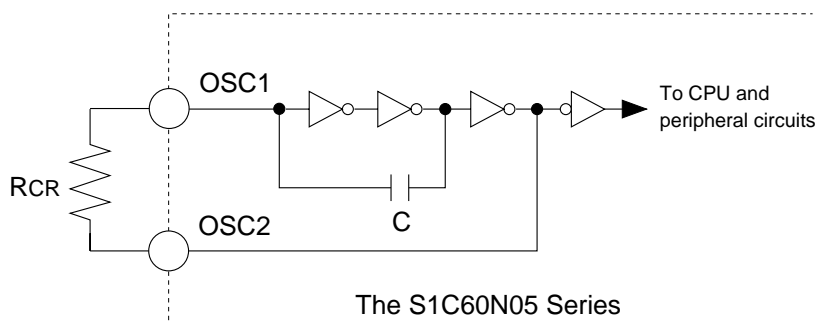

Fig. 4.2.2
For the S1C60N05 Series, CR oscillation circuit (typ. 65 kHz) may be selected by a mask option. Figure 4.2.2 is the block diagram of the CR oscillation circuit.
As Figure 4.2.2 indicates, the CR oscillation circuit can be configured simply by connecting the register (RCR) between pins OSC1 and OSC2 since capacity (C) is built-in. See Chapter 6, "ELECTRICAL CHARACTERISTICS" for RCR value.